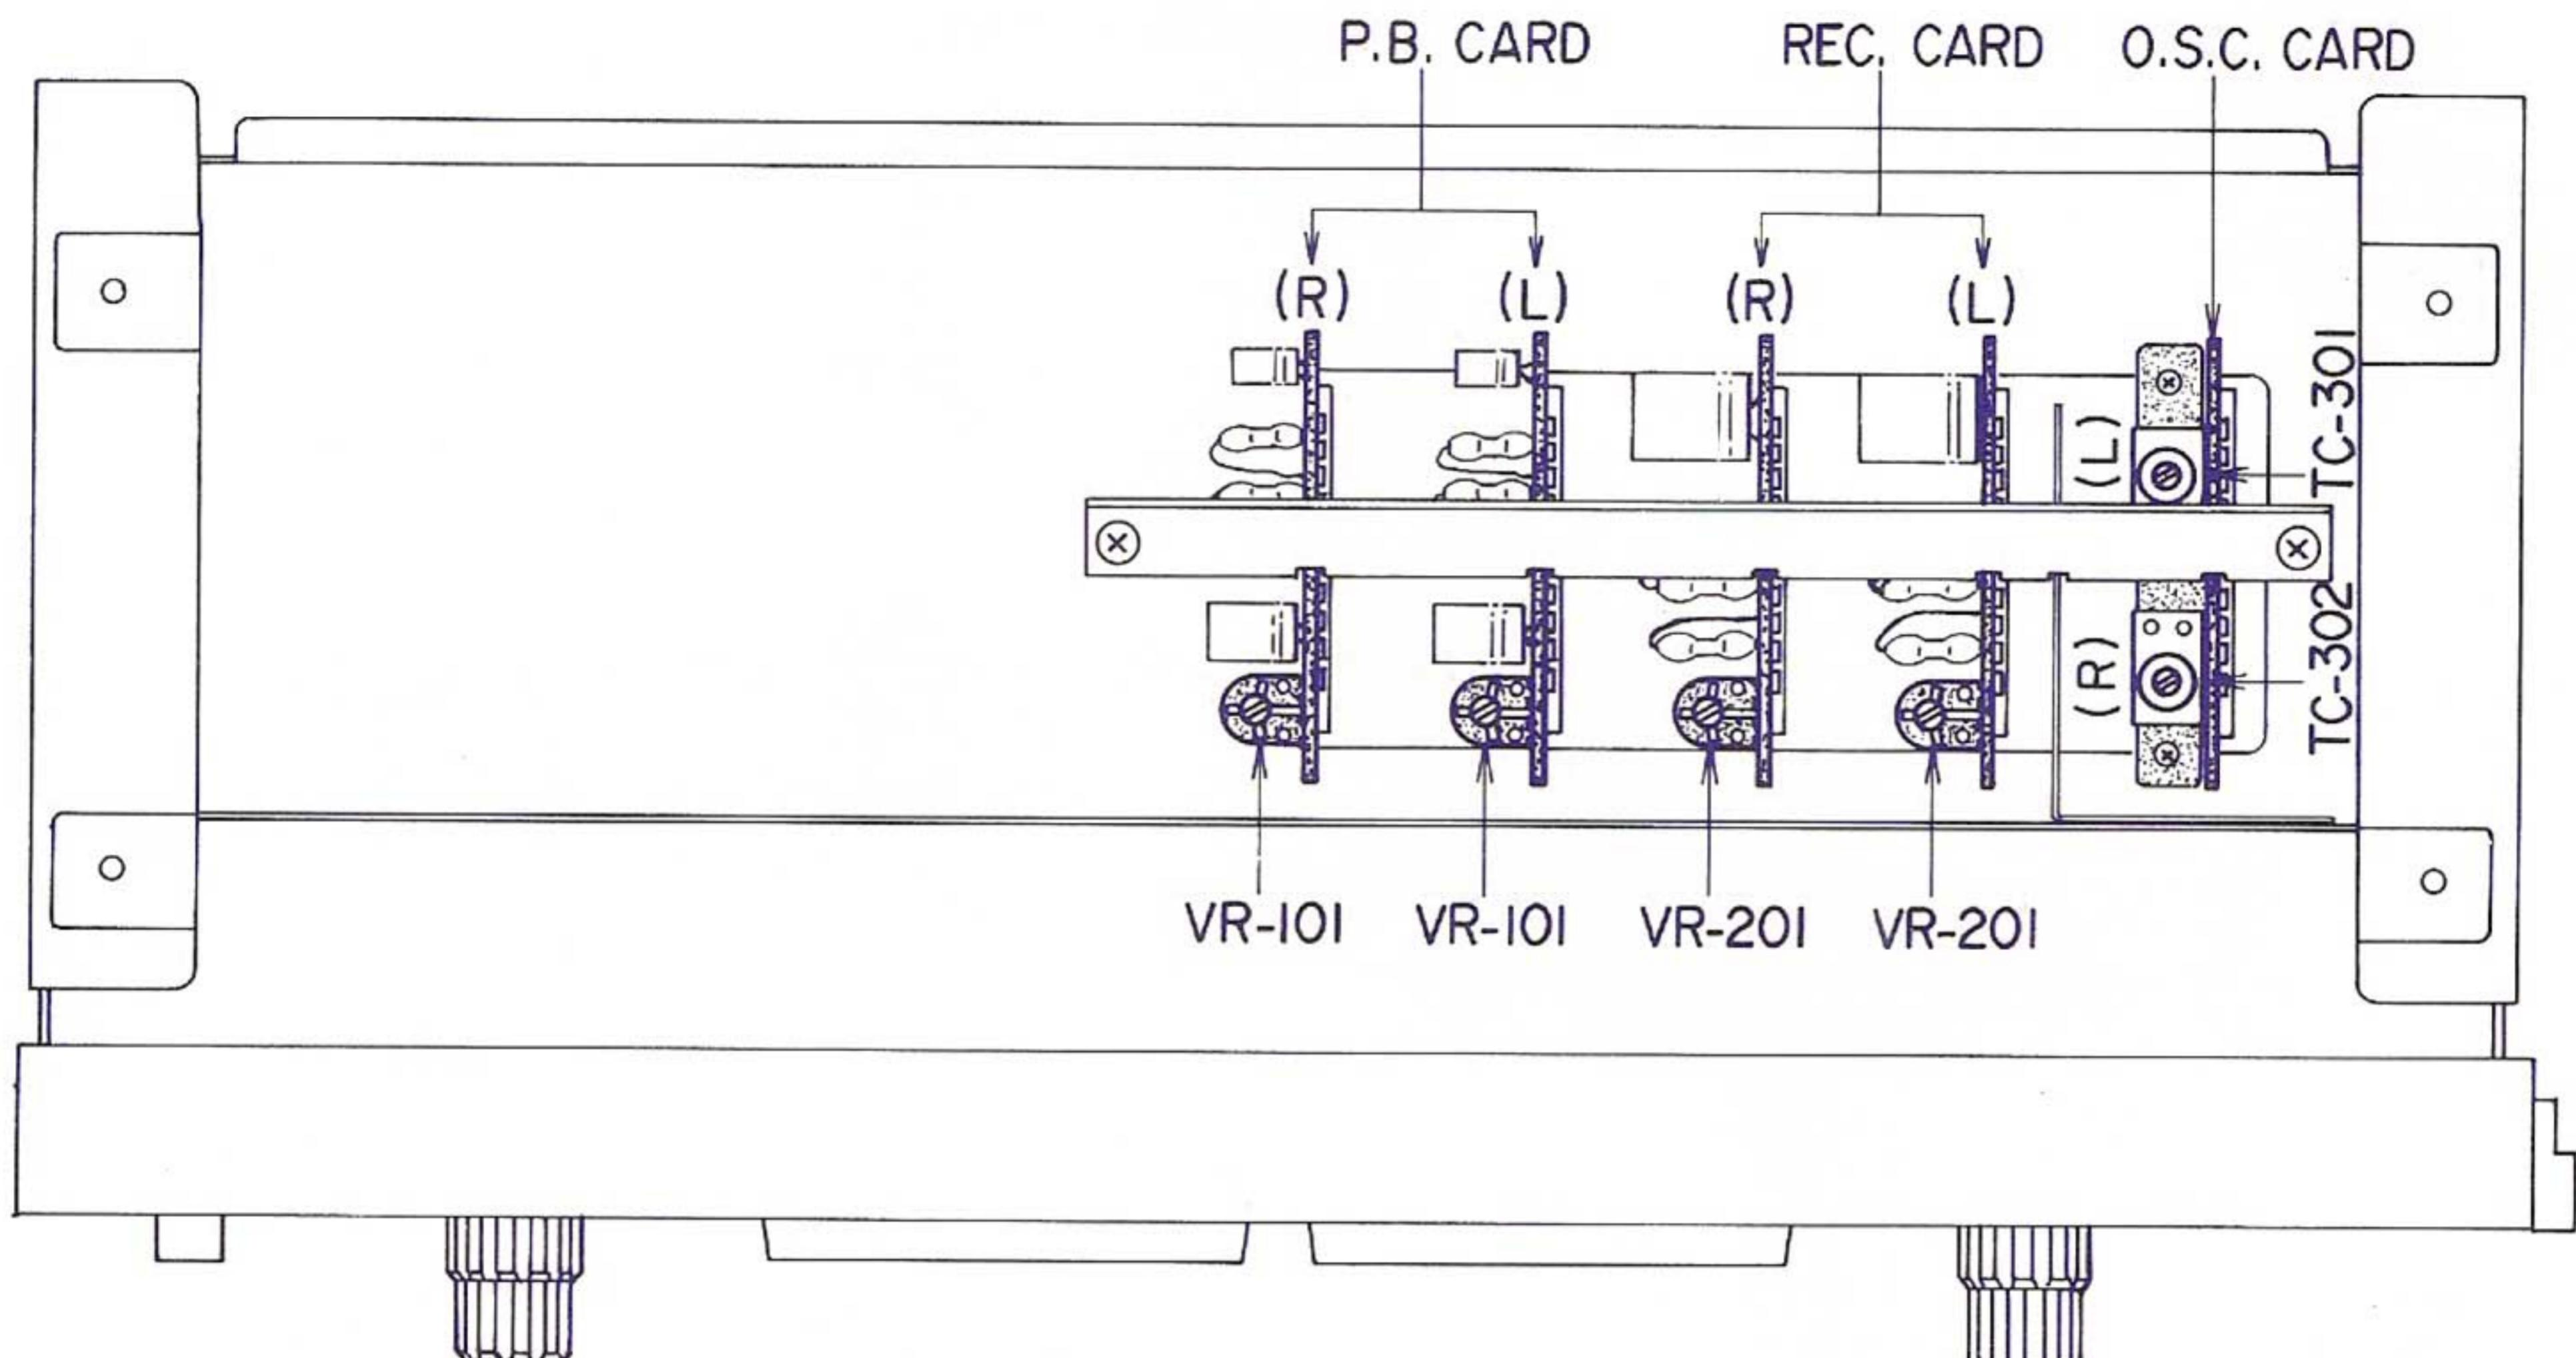

Fig. 7-1
- Adjust the VR 101 (semi-fixed resistor 20 KB, Fig. 7-1 of the pre-amplifier so that Line Output Voltage indicates 1.228 V (+4 dBs).